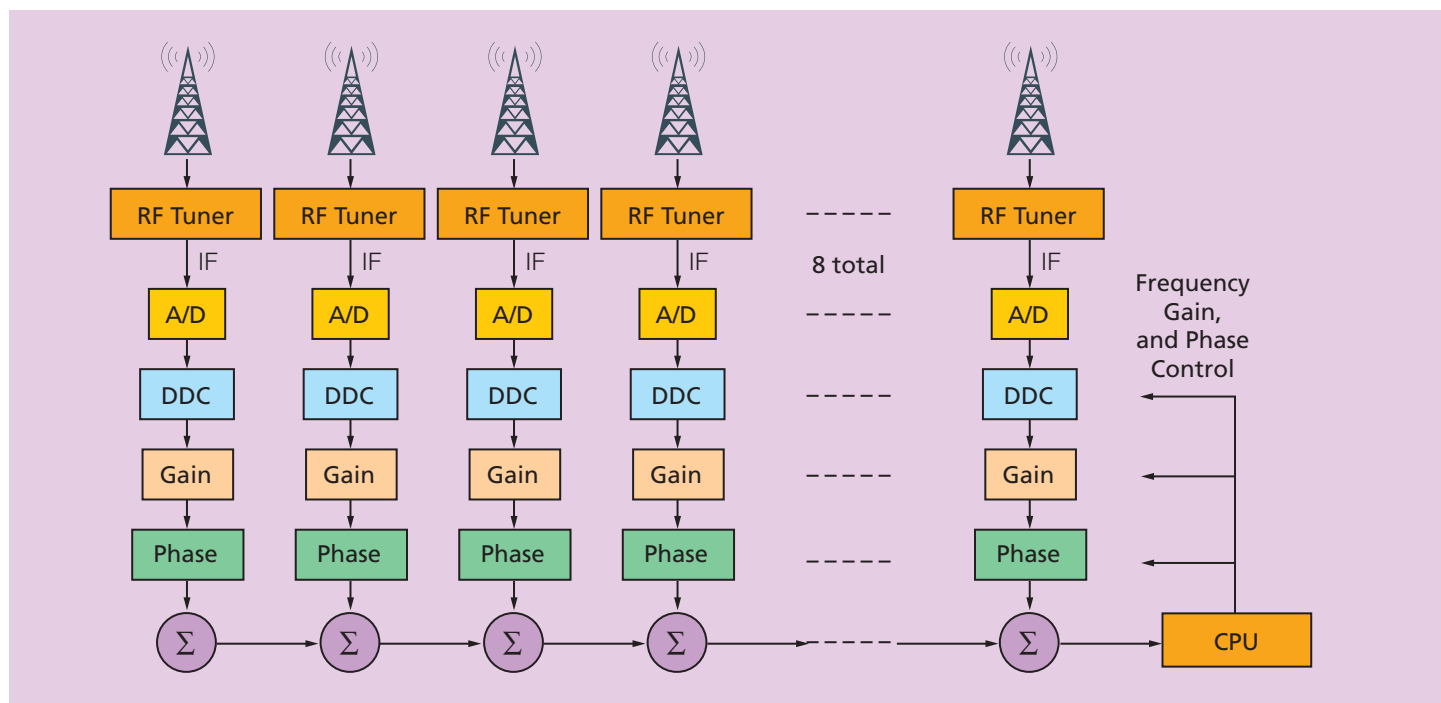

Figure 2 – Eight-channel beamforming system block diagram
In this system, we arranged eight antennas in a linear array, as shown in the overall block diagram of Figure 2. The antenna frequency here is 2.5 GHz, so each antenna signal needs to be amplified, filtered and then downconverted to an intermediate frequency (IF) so that an A/D converter can digitize it at a reasonable sampling rate. It is mandatory to use synchronous sampling across all eight channels in order to preserve a fixed phase relationship for beamforming.